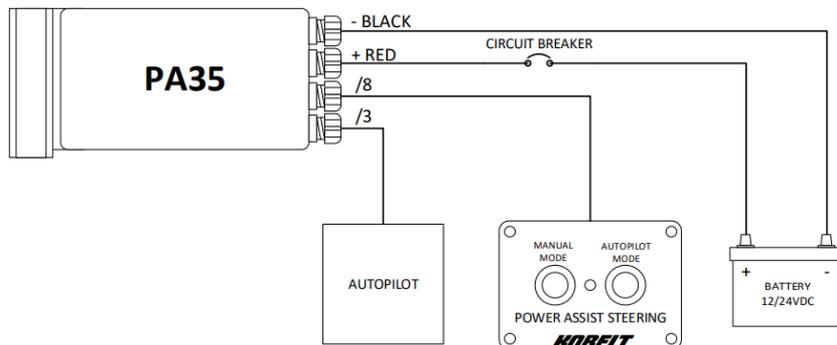

Figure 4: PA35 Wiring Diagram
2. Wire electrical cables and power wires, as per the details in this section of the manual and according to Figure 4.